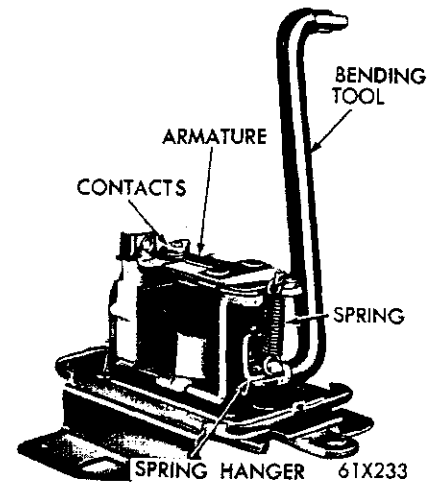

Fig. 50—Adjusting the Spring Tension
(6) If the regulator setting is outside the limits shown, the regulator must be removed to remove the cover. To adjust the voltage setting, bend the regulator lower spring hanger down to increase voltage setting, or up to decrease voltage setting. Use an insulated tool to bend the spring hanger. (See Fig. 50). The regulator must be installed, correctly connected, and retested after each adjustment of the lower spring hanger.